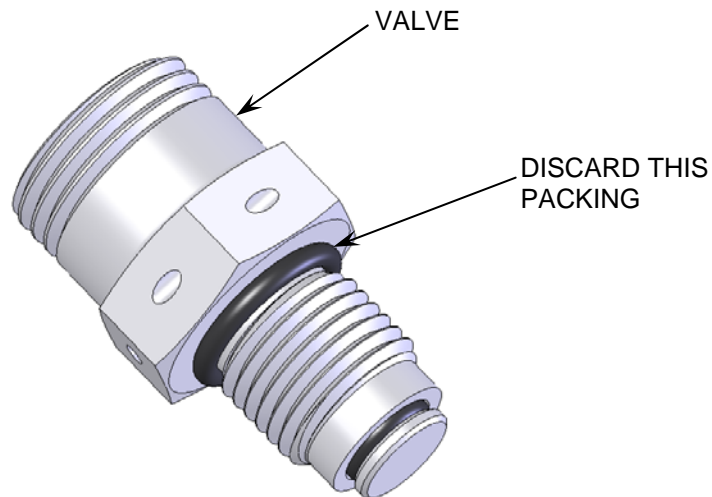

FIGURE 8
4. Removal of Valve (Figure 8)
- C. Discard packing shown in Figure 8.